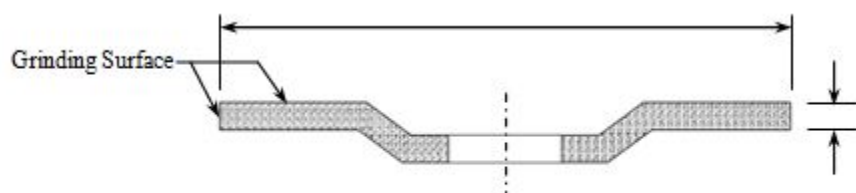

Figure 101B *Type 27 Depressed Center Wheel*
- Type 27 wheels are provided as both 7 inch and 9 inch grinding discs manufactured with flat grinding rims or faces and are designed for side grinding, when used at a slight angle to the work piece. (See Figure 101B)